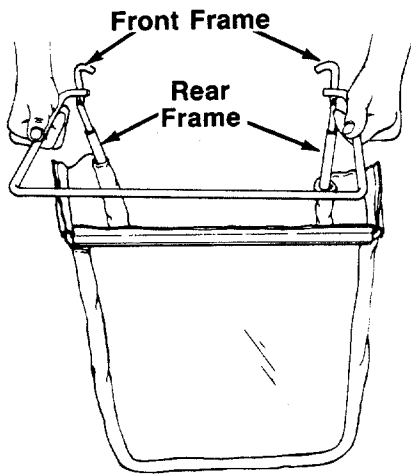

FIGURE 14.
2. Slide the ends of the front frame assembly into the ends of the rear frame as shown in figure 14.